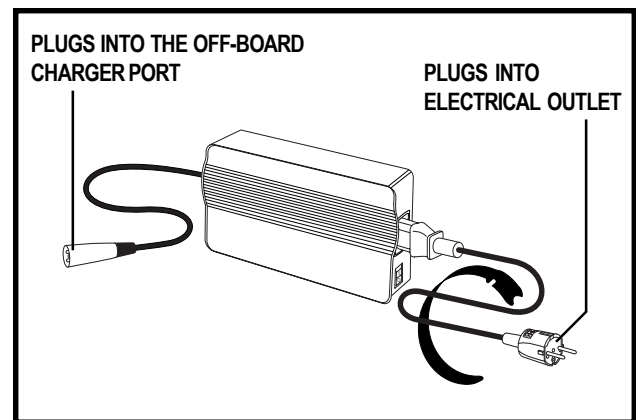

Figure 12A. Off-board Charger
4. Plug the 3-pin charger power lead into the off-board charger port. See figure 12A.